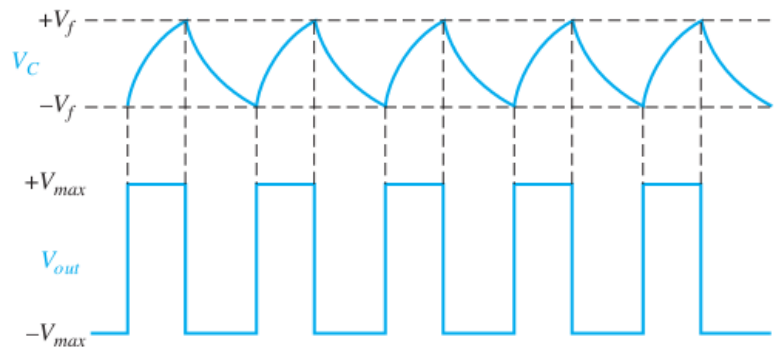

Figure 27 Waveforms for the square-wave relaxation oscillator.
- The basic square-wave oscillator shown in Figure 27 is a type of relaxation oscillator because its operation is based on the charging and discharging of a capacitor.